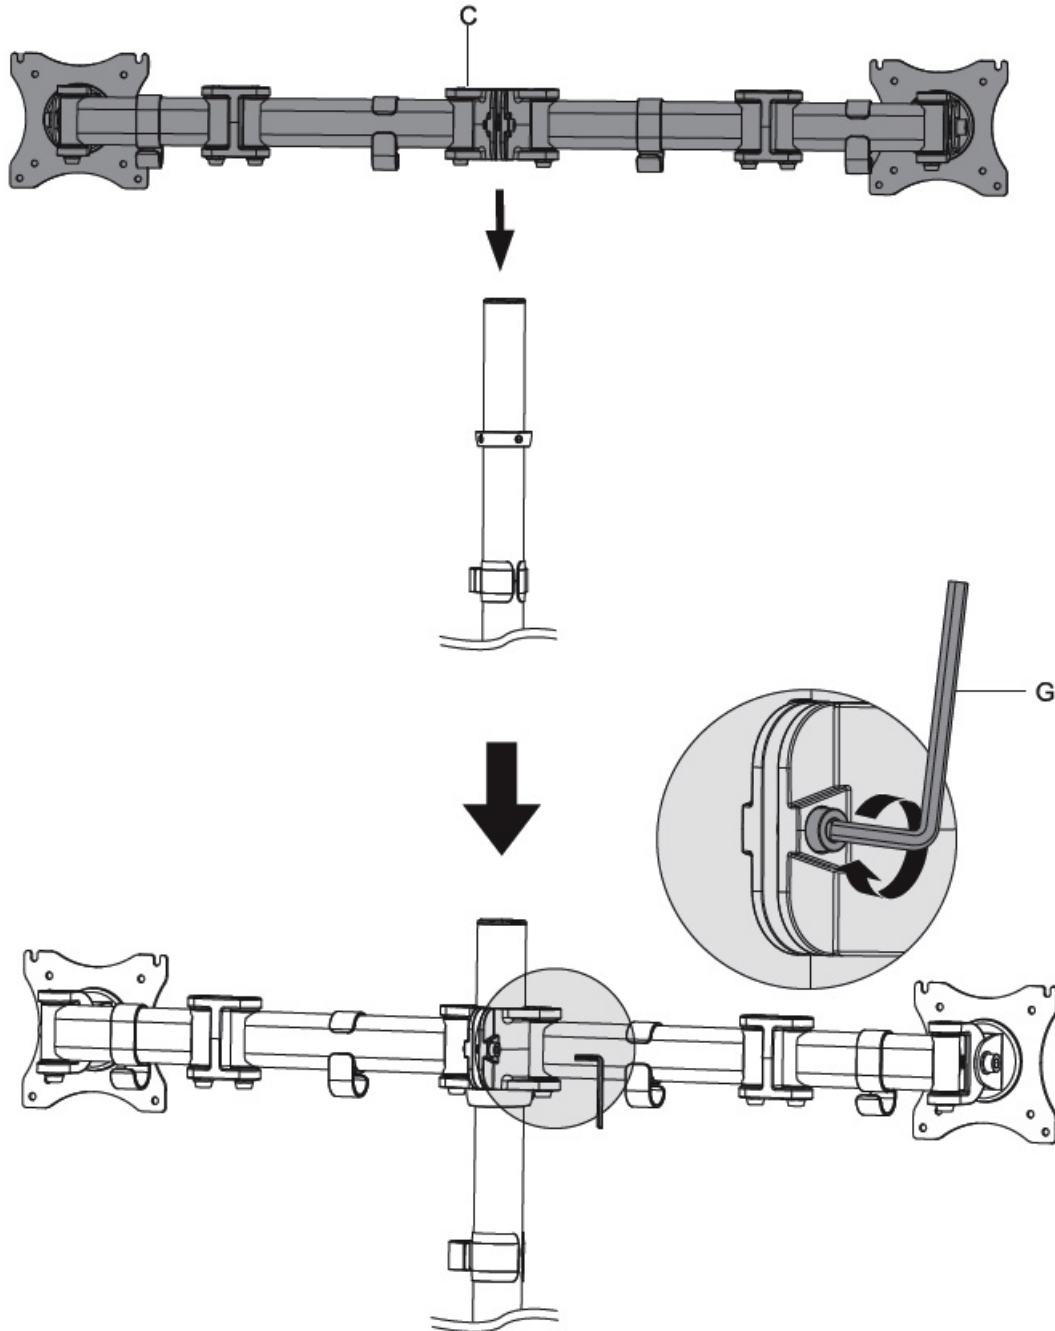

Figure 2B
2. Mount the **Arm Assembly with VESA Plate (C)** to the tube support so it rests on top of the position ring, secure it by tightening the clamp bolt using the included **5mm Allen Key (G)** as shown in **Figure 2B**. Do not overtighten the clamp bolt, doing so may damage the clamp or tube support. Continue to **Step 3**.